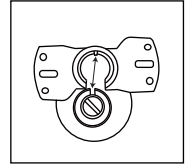

Figure 1
1. Insert the downrod ball head into the groove of the mounting bracket. (Figure 1)
### Low-profile use (Figure 1)